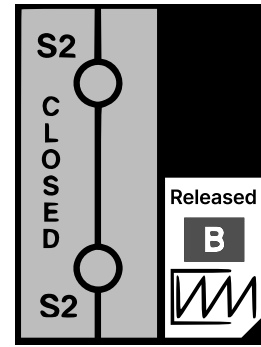

Figure 3-14. Source 2 Closed, Spring Released
See Figure 3-14. Source 2 is closed, and the Source 2 spring is released. Source 2 spring will need to be charged to open Source 2. Charge the spring by rotating in the counterclockwise (B) direction.